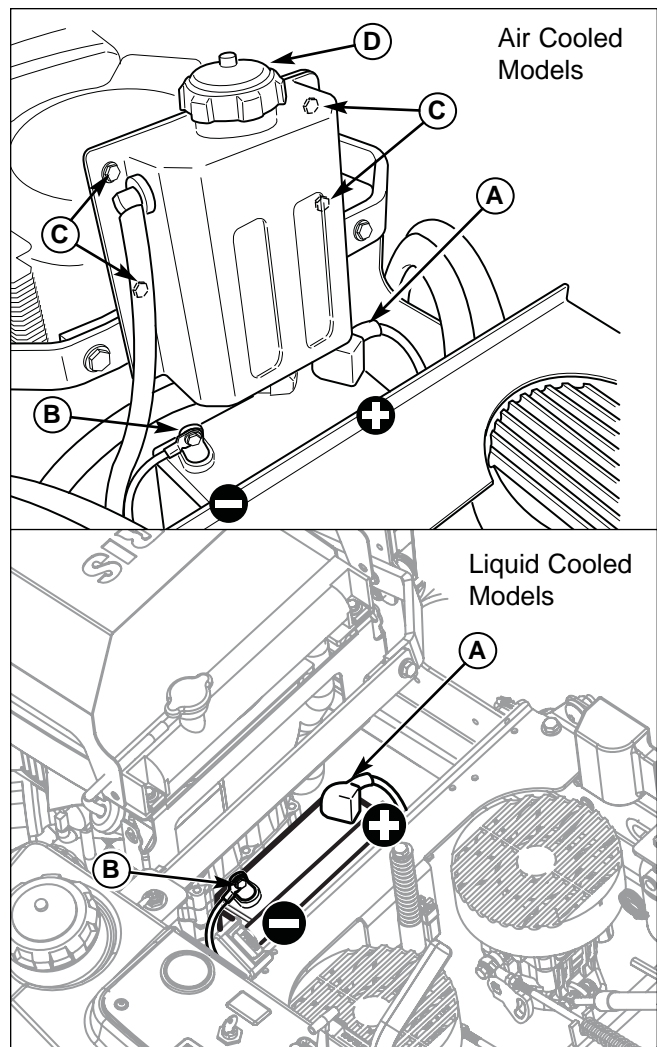

Figure 24. Battery Compartment
1. Remove the hydraulic oil reservoir mounting hardware (C, Figure 24) and move the reservoir (D) forward to expose the battery.
2. Disconnect the cables from the battery, negative (black) cable first (B).
4. Reinstall the battery and reattach the battery cables, positive (red) cable first (A).